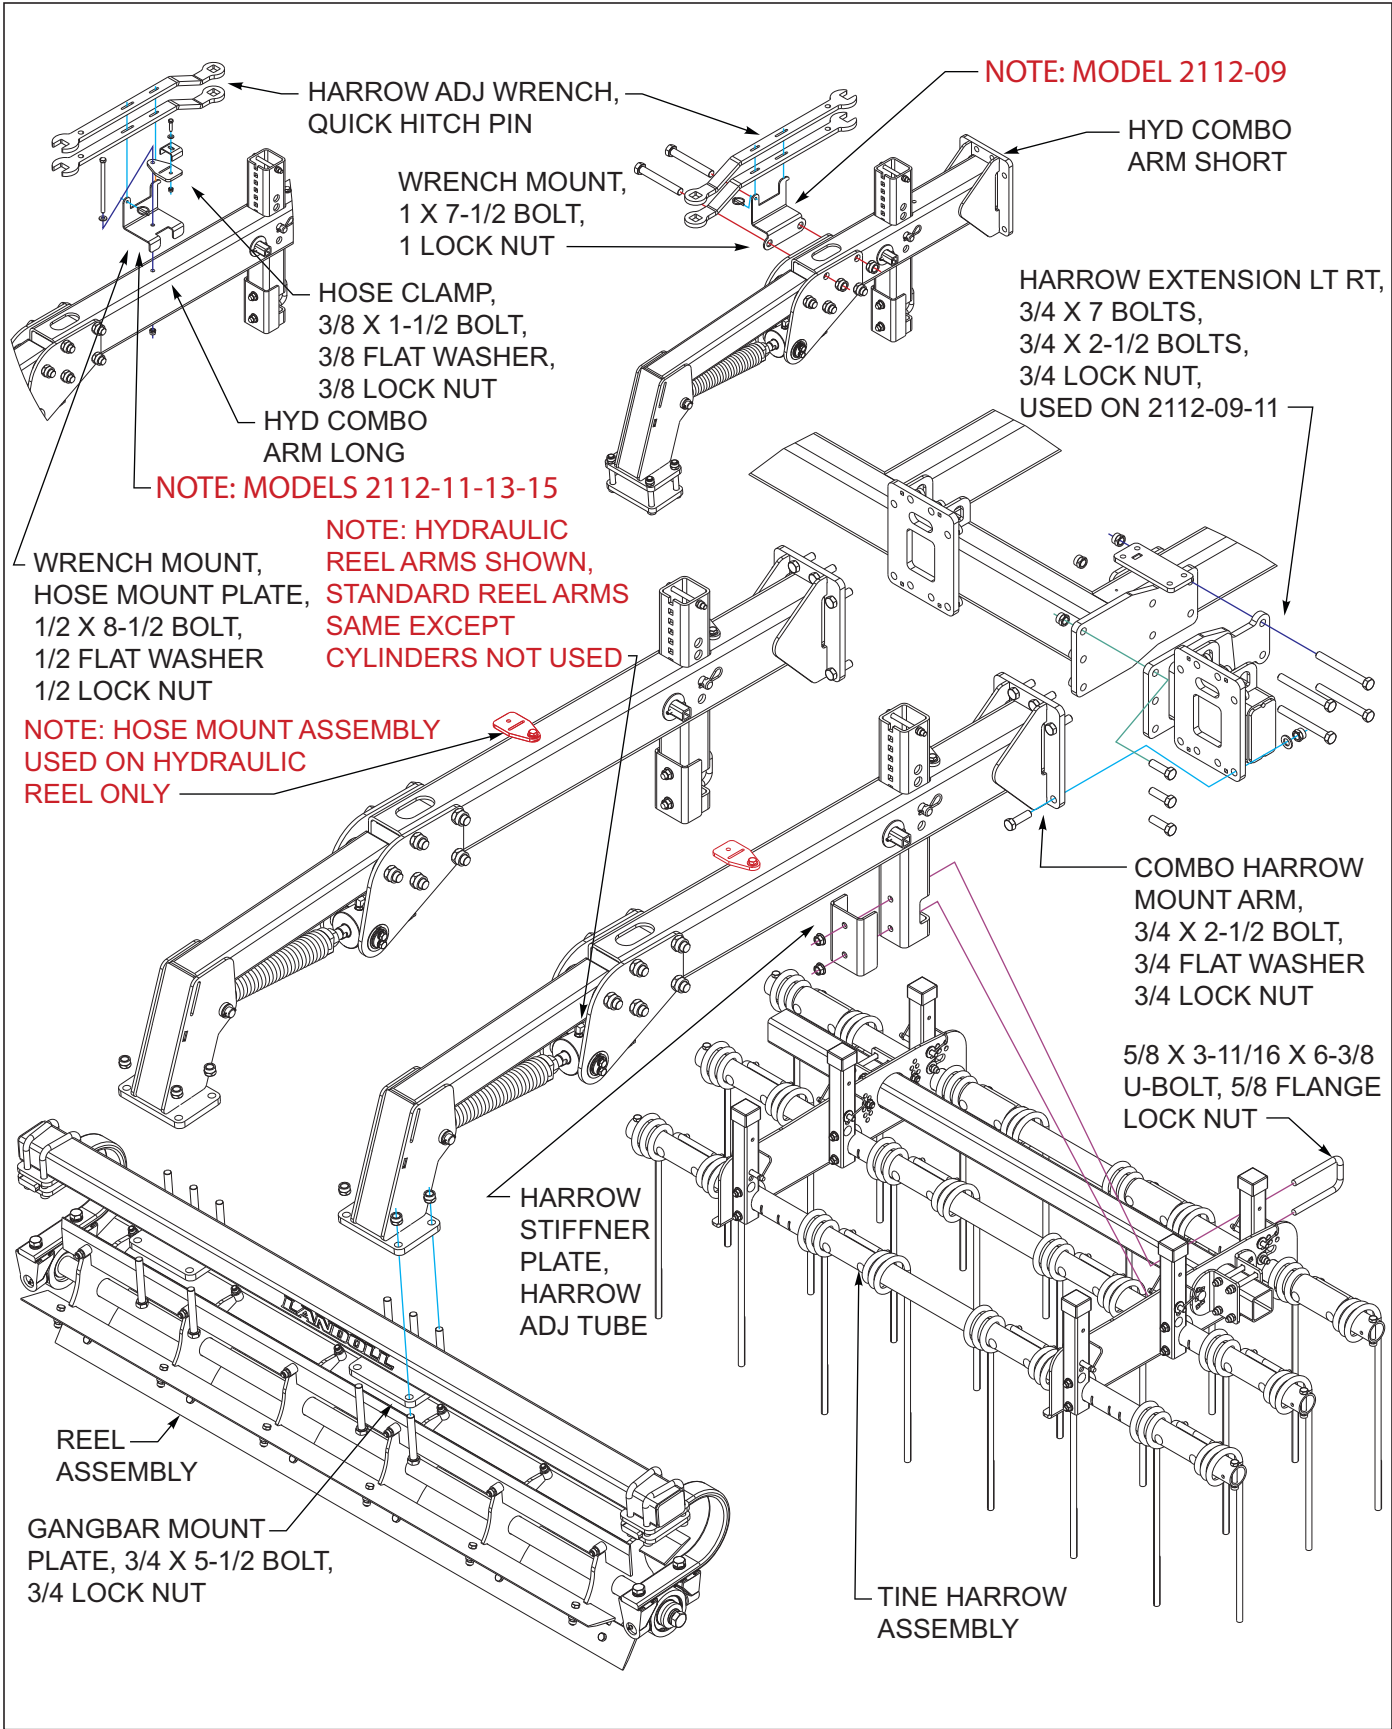
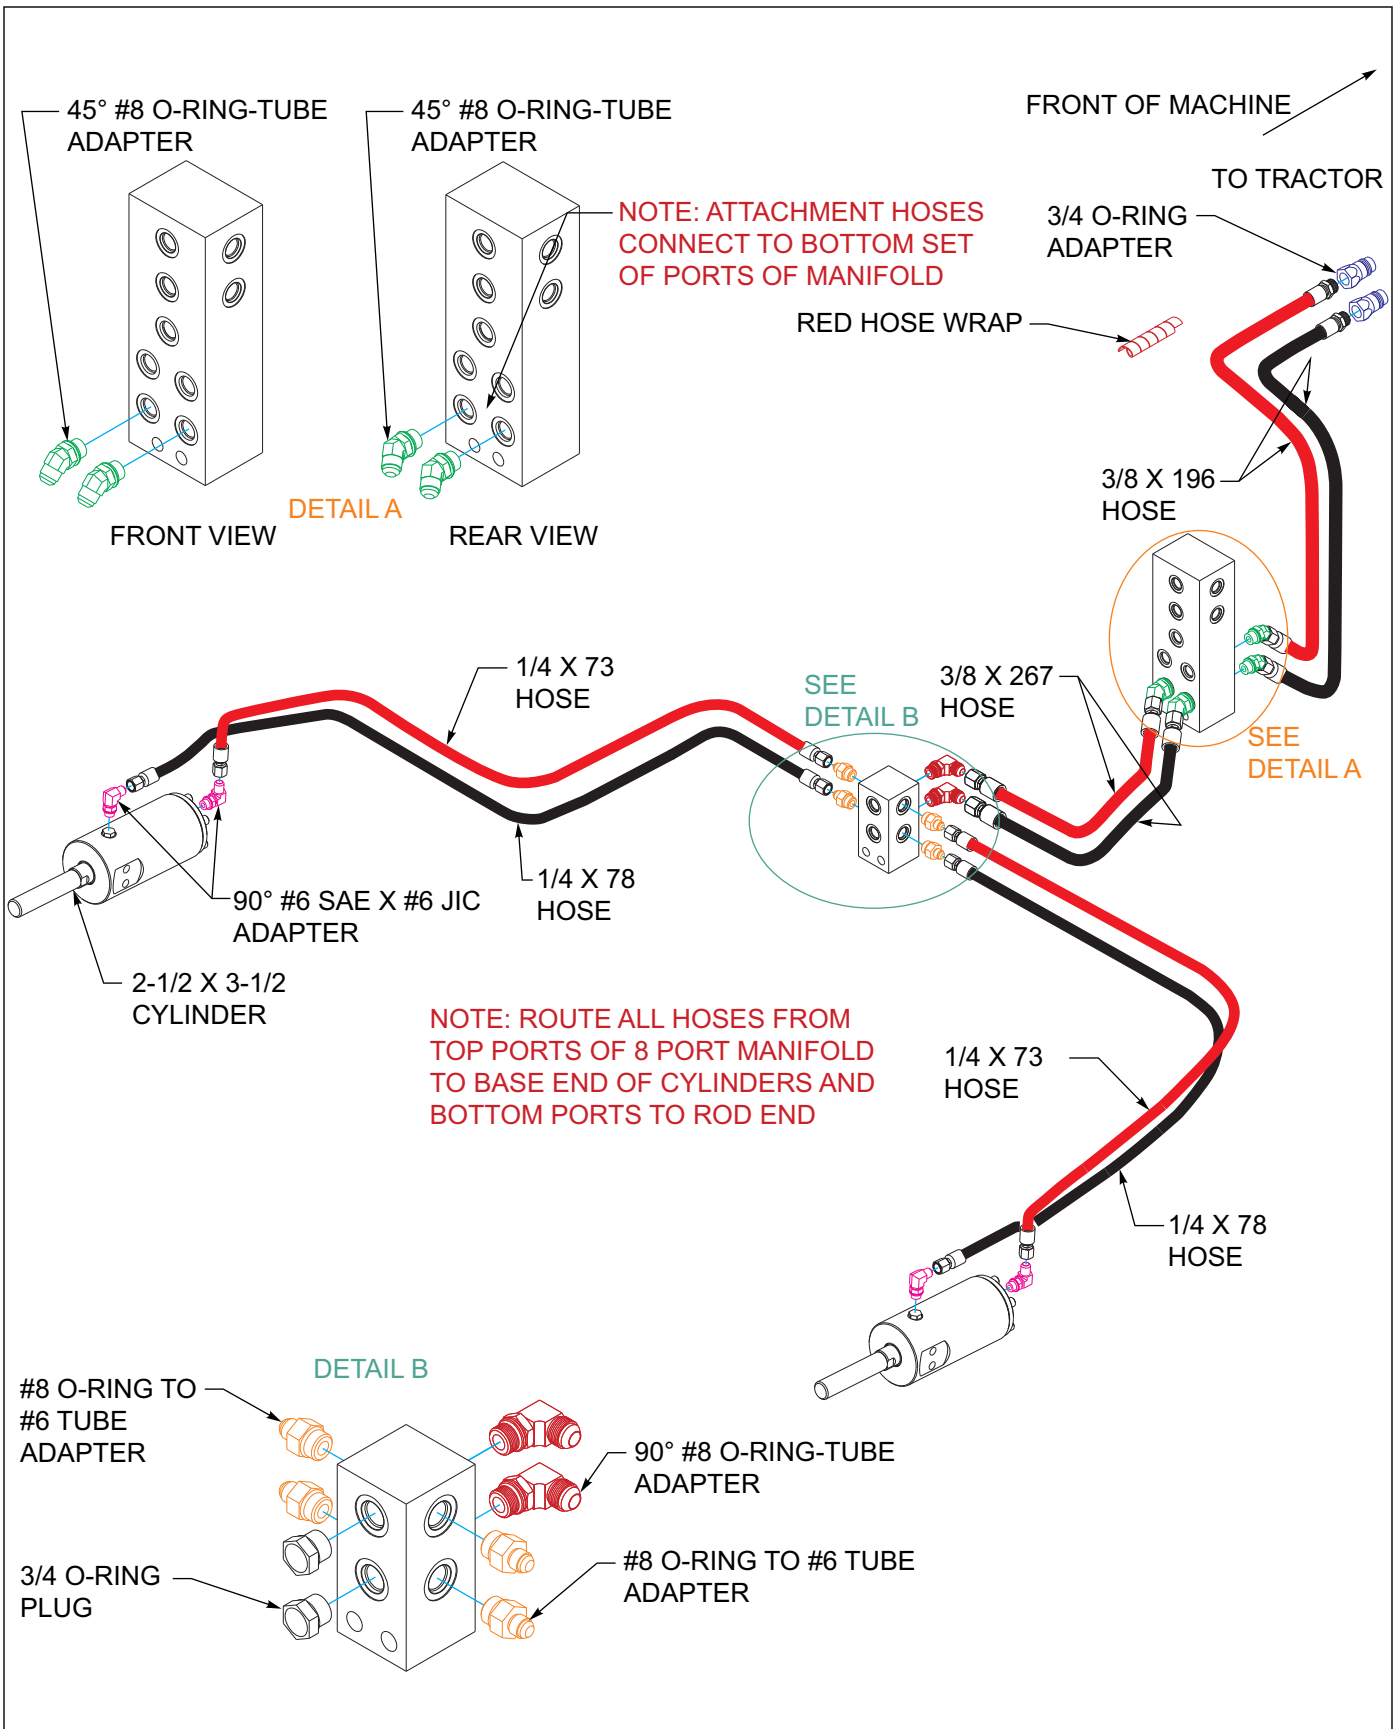
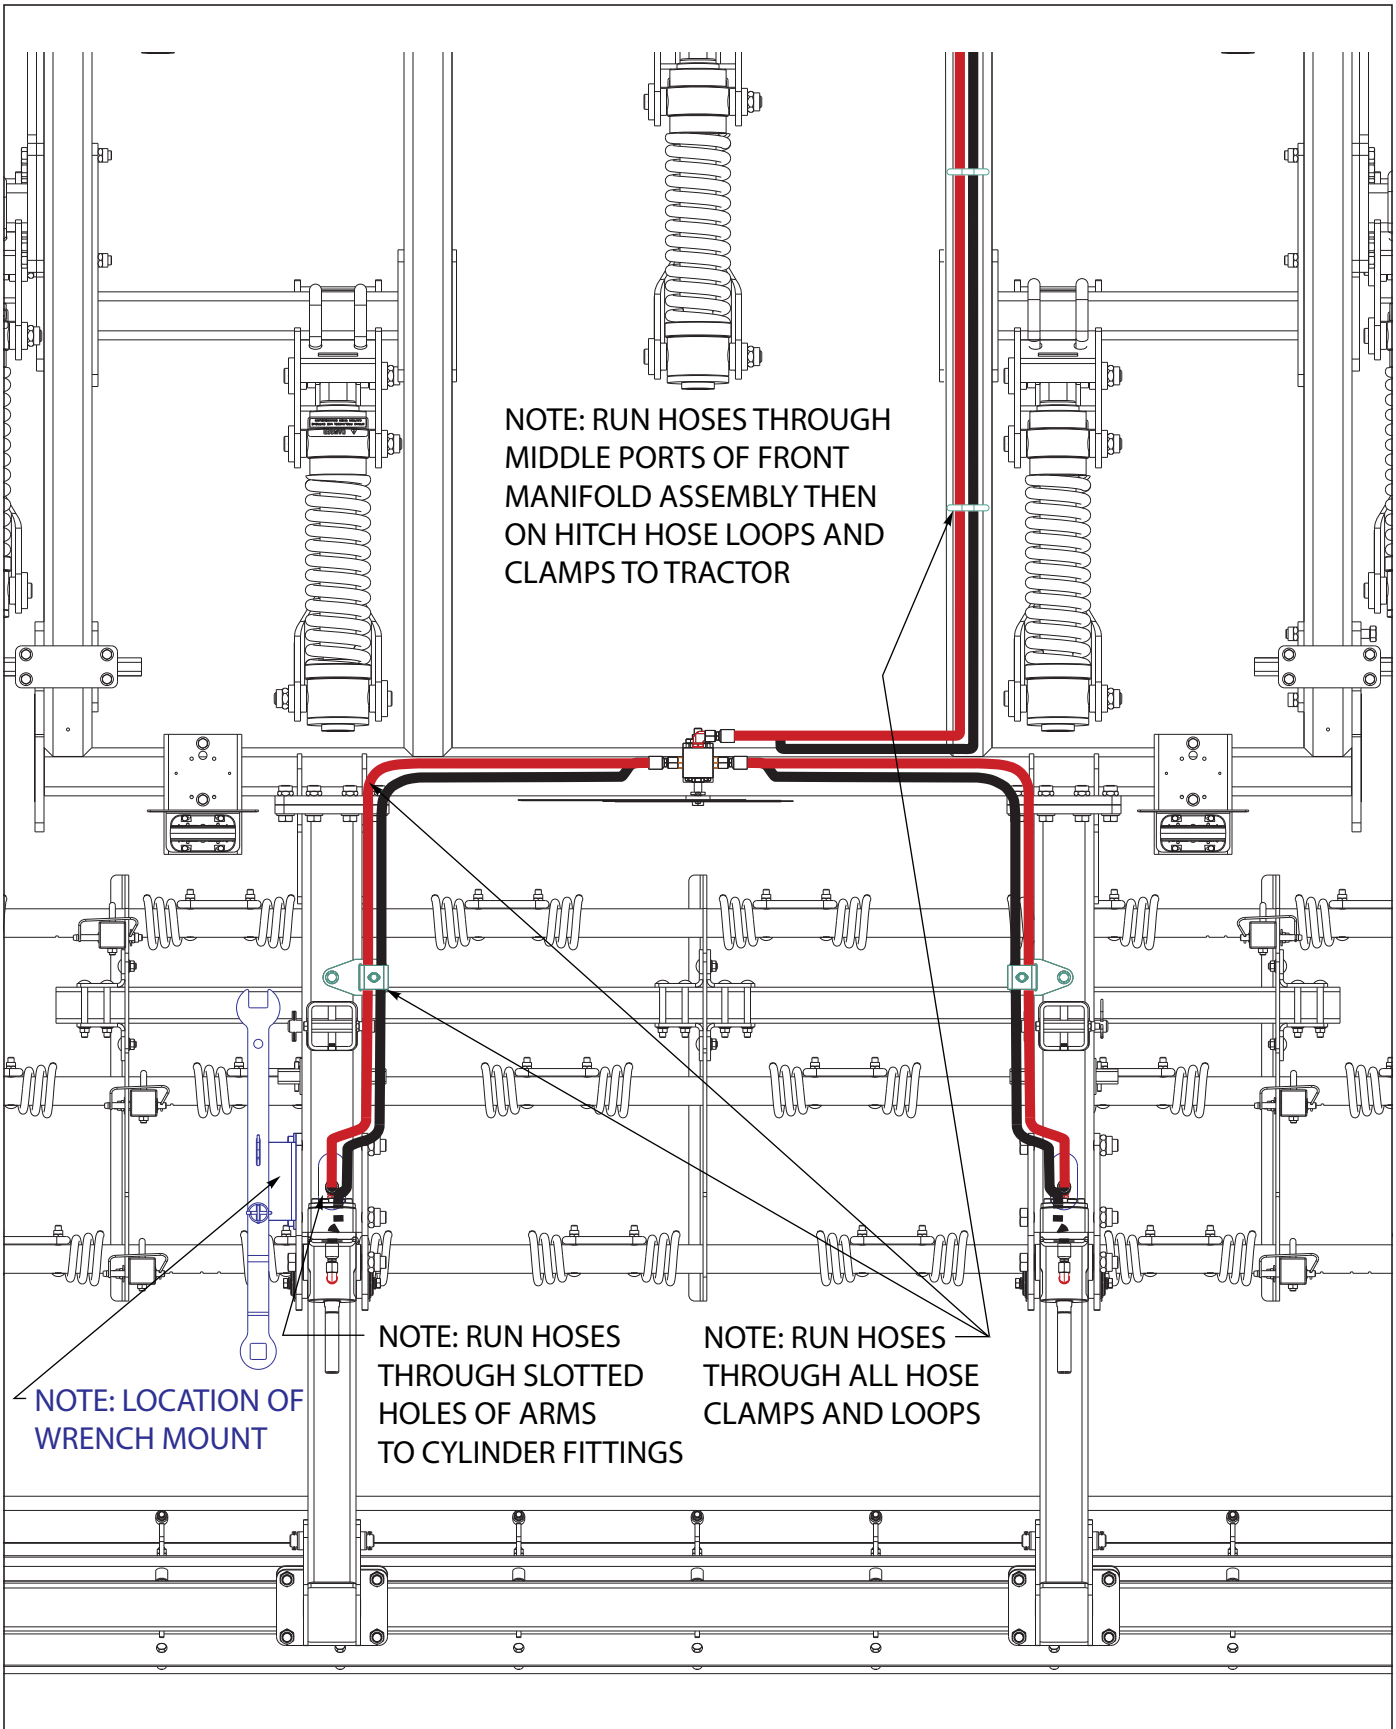
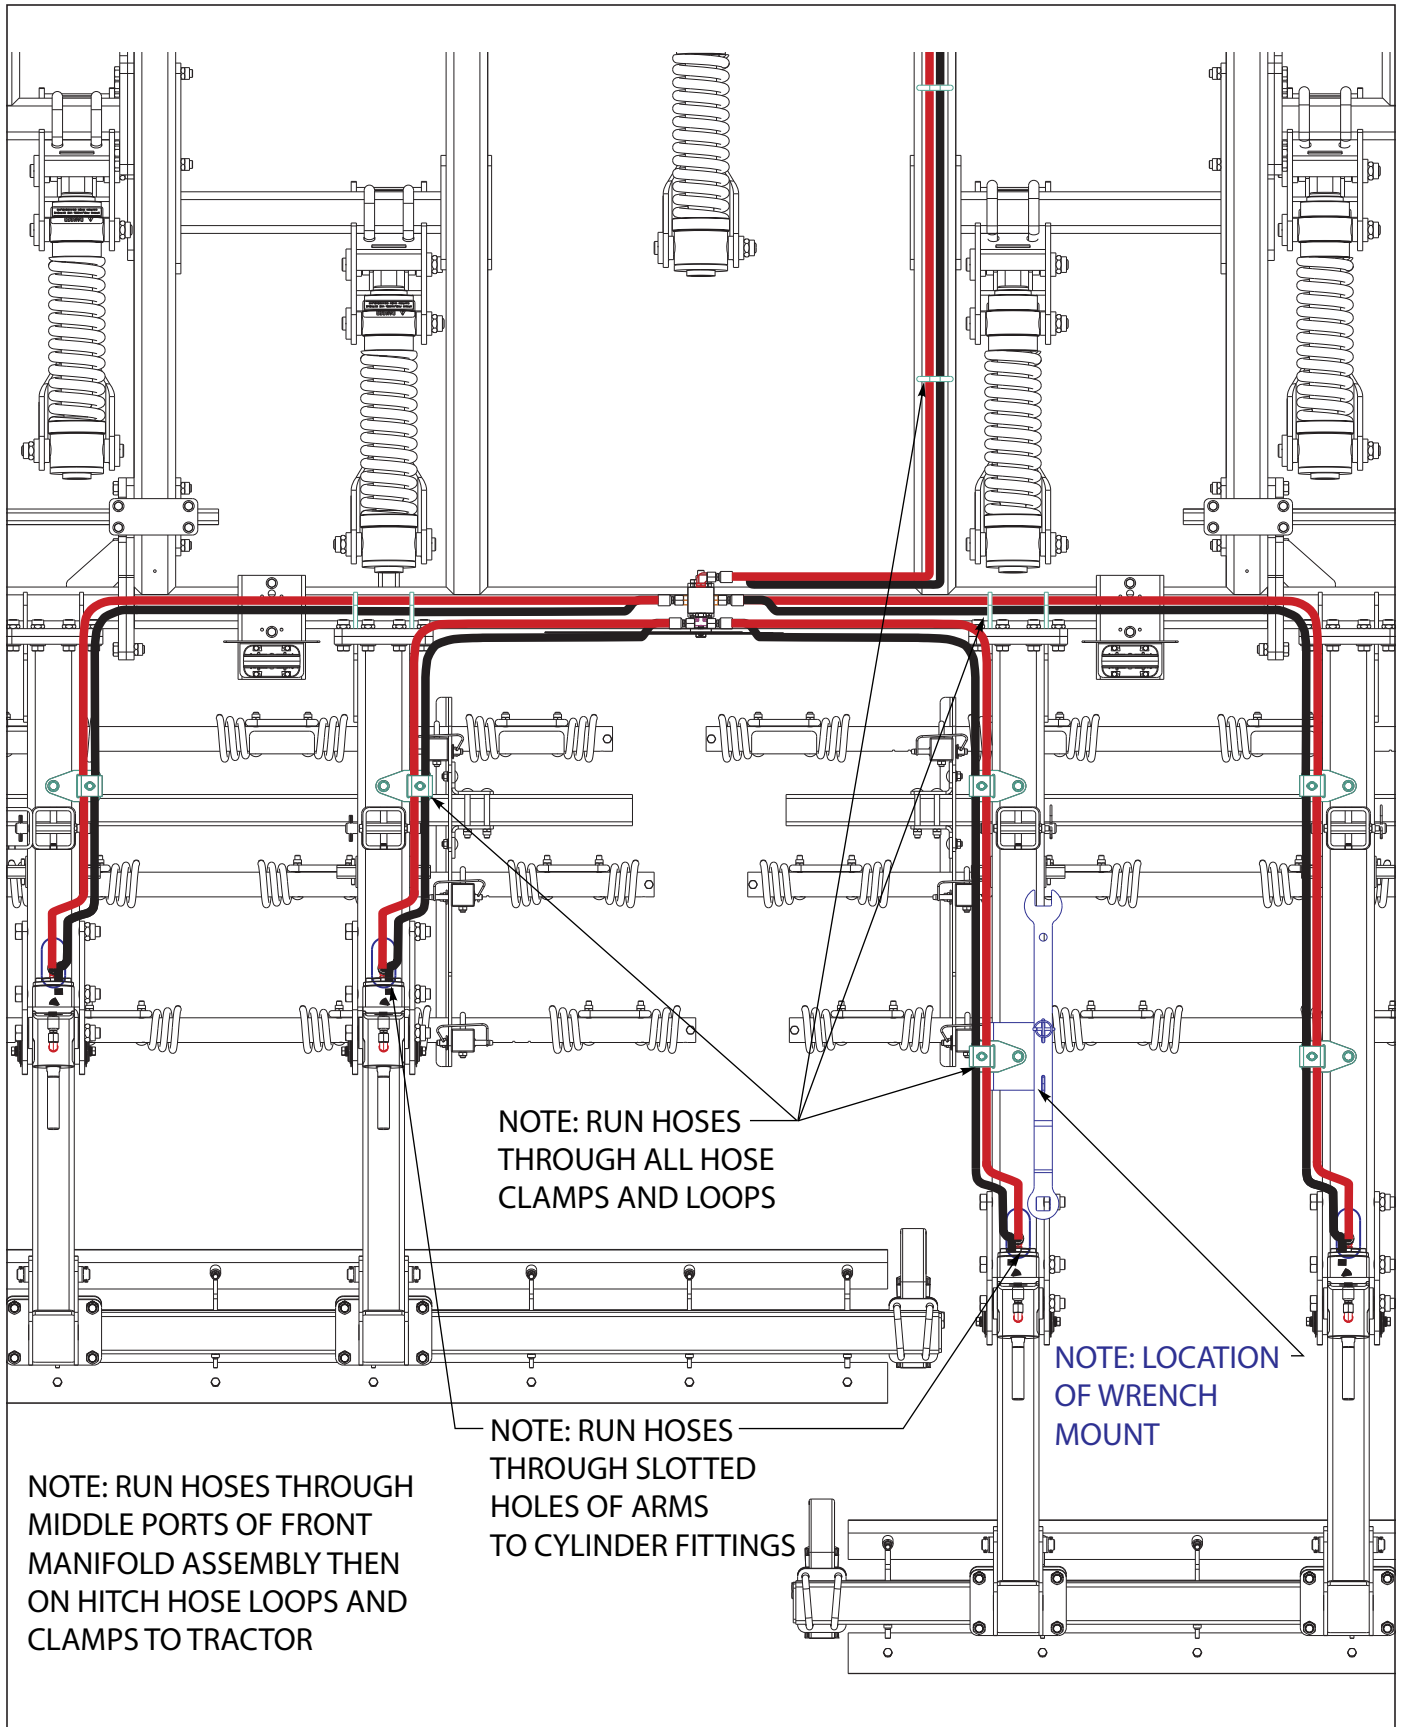

Figure 3-23: Standard or Hydraulic 3BCT/Chopper Installation (Option)
Figure 3-24: 3BCT/Chopper Hydraulic Installation 2112-09
Figure 3-26: 3BCT/Chopper Hydraulic Layout 2112-09
Figure 3-27: 3BCT/Chopper Hydraulic Layout 2112-11-13-15
1. Model 2111-11, attach the harrow extension LT and RT to plates on end of frame with 3/4 x 7 bolts, 3/4 x 2-1/2 bolts and 3/4 lock nuts See Figures 3-23.
2. Attach the combo harrow mount arm long assemblies on rear of center frame, RT side, and short arm assemblies, LT side, to plates on rear of center frame, with 3/4 x 2-1/2 bolts, 3/4 flat washers, 3/4 lock nuts See Figures 3-23.
4. Attach the harrow tine assemblies, secure with the u-bolts, harrow stiffner plates, nuts that were just removed as shown See Figures 3-23.
6. Attach the reel assemblies, secure with the gangbar mount plates, 3/4 x 5-1/2bolts, 3/4 lock nuts, that were just removed as shown See Figures 3-23.
8. Models 2112-11-13-15 attach the wrench mount with the 1/2 x 8-1/2 bolts, 1/2 flat washer, 1/2 lock nuts to the combo harrow mount arm See Figures 3-23. See Figures 3-26 for proper location of the wrench mount.
9. On hydraulic 3BCT/Chopper Reel option, install the hose mount plate with the 1/2 x 8-1/2 bolt, 1/2 flat washer, 1/2 lock nut, the hose clamp attaches with 3/8 x 1-1/2 bolt, 3/8 flat washer, 3/8 lock nut See Figures 3-23. See Figures 3-27 for proper location of the wrench mount.
12. On hydraulic 3BCT/Chopper Reel option, See Figures 3-24 through See Figures 3-27 for proper hydraulic installation.
1. Models 2112-11, attach the harrow extension LT and RT to plates on end of frame with 3/4 x 7 bolts, 3/4 x 2-1/2 bolts and 3/4 lock nuts See Figures 3-23.
4. Attach the reel assemblies, secure with the u-bolts, gangbar mount plates, nuts that were just removed as shown See Figures 3-23.